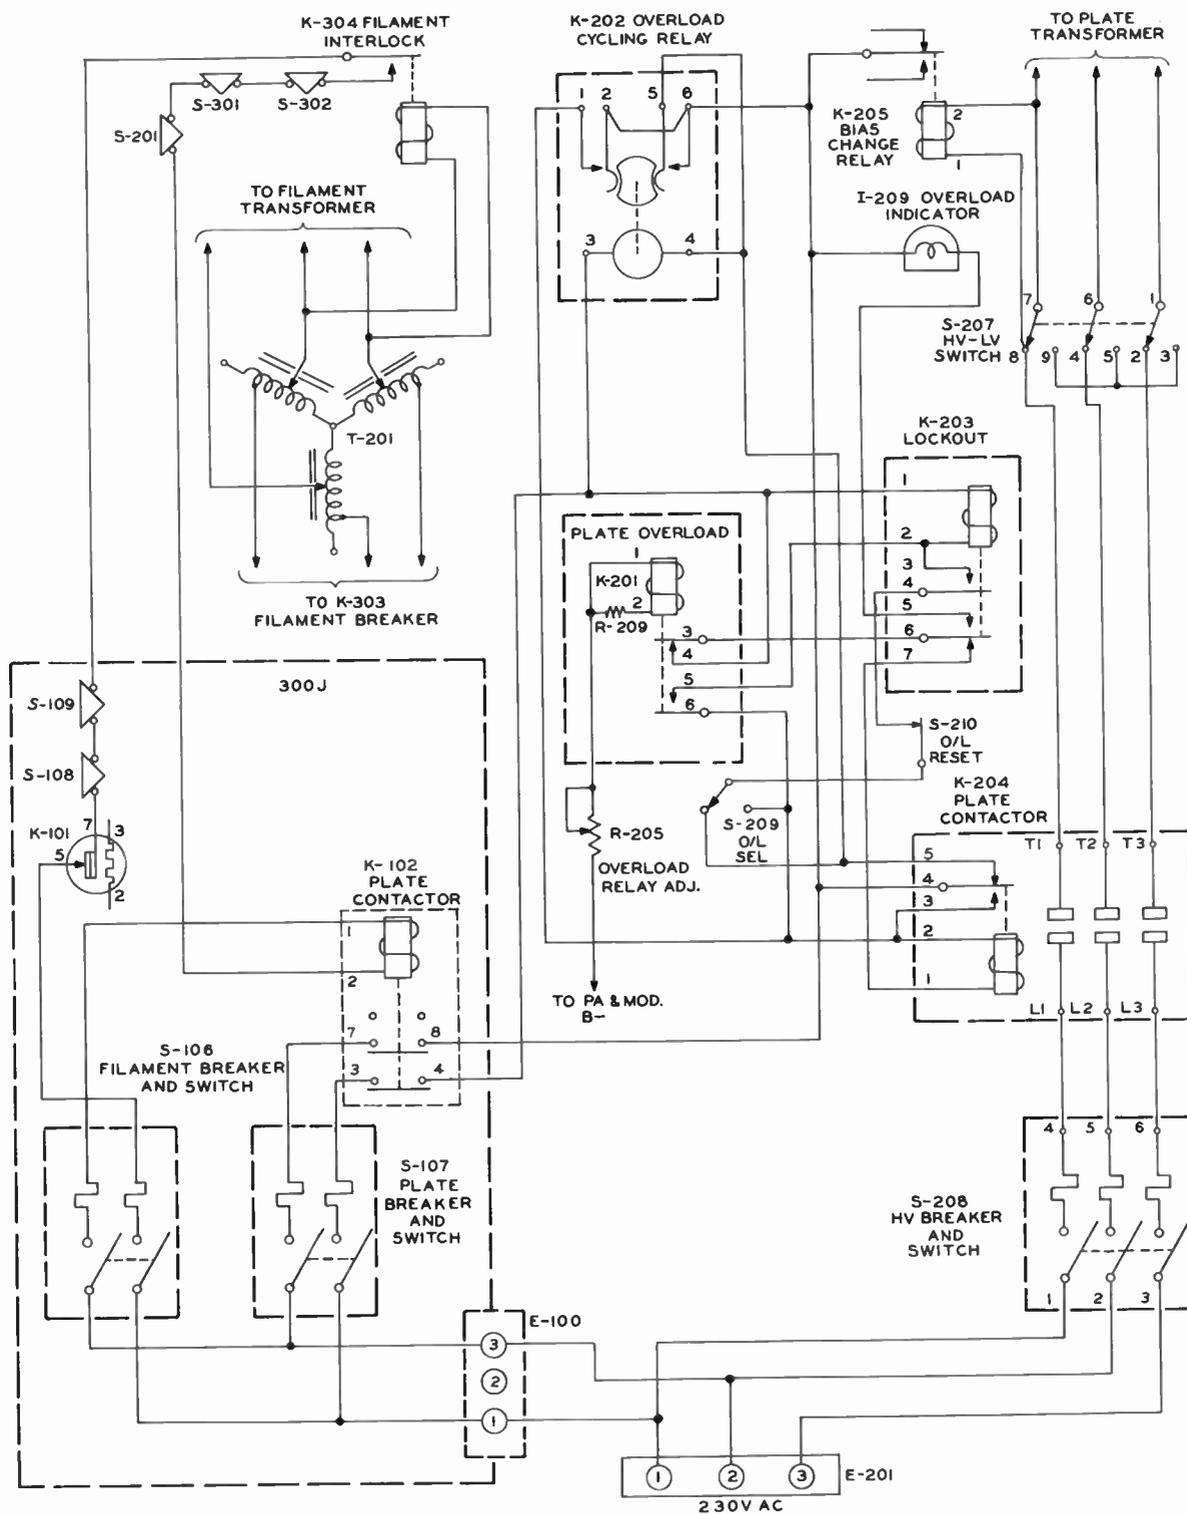
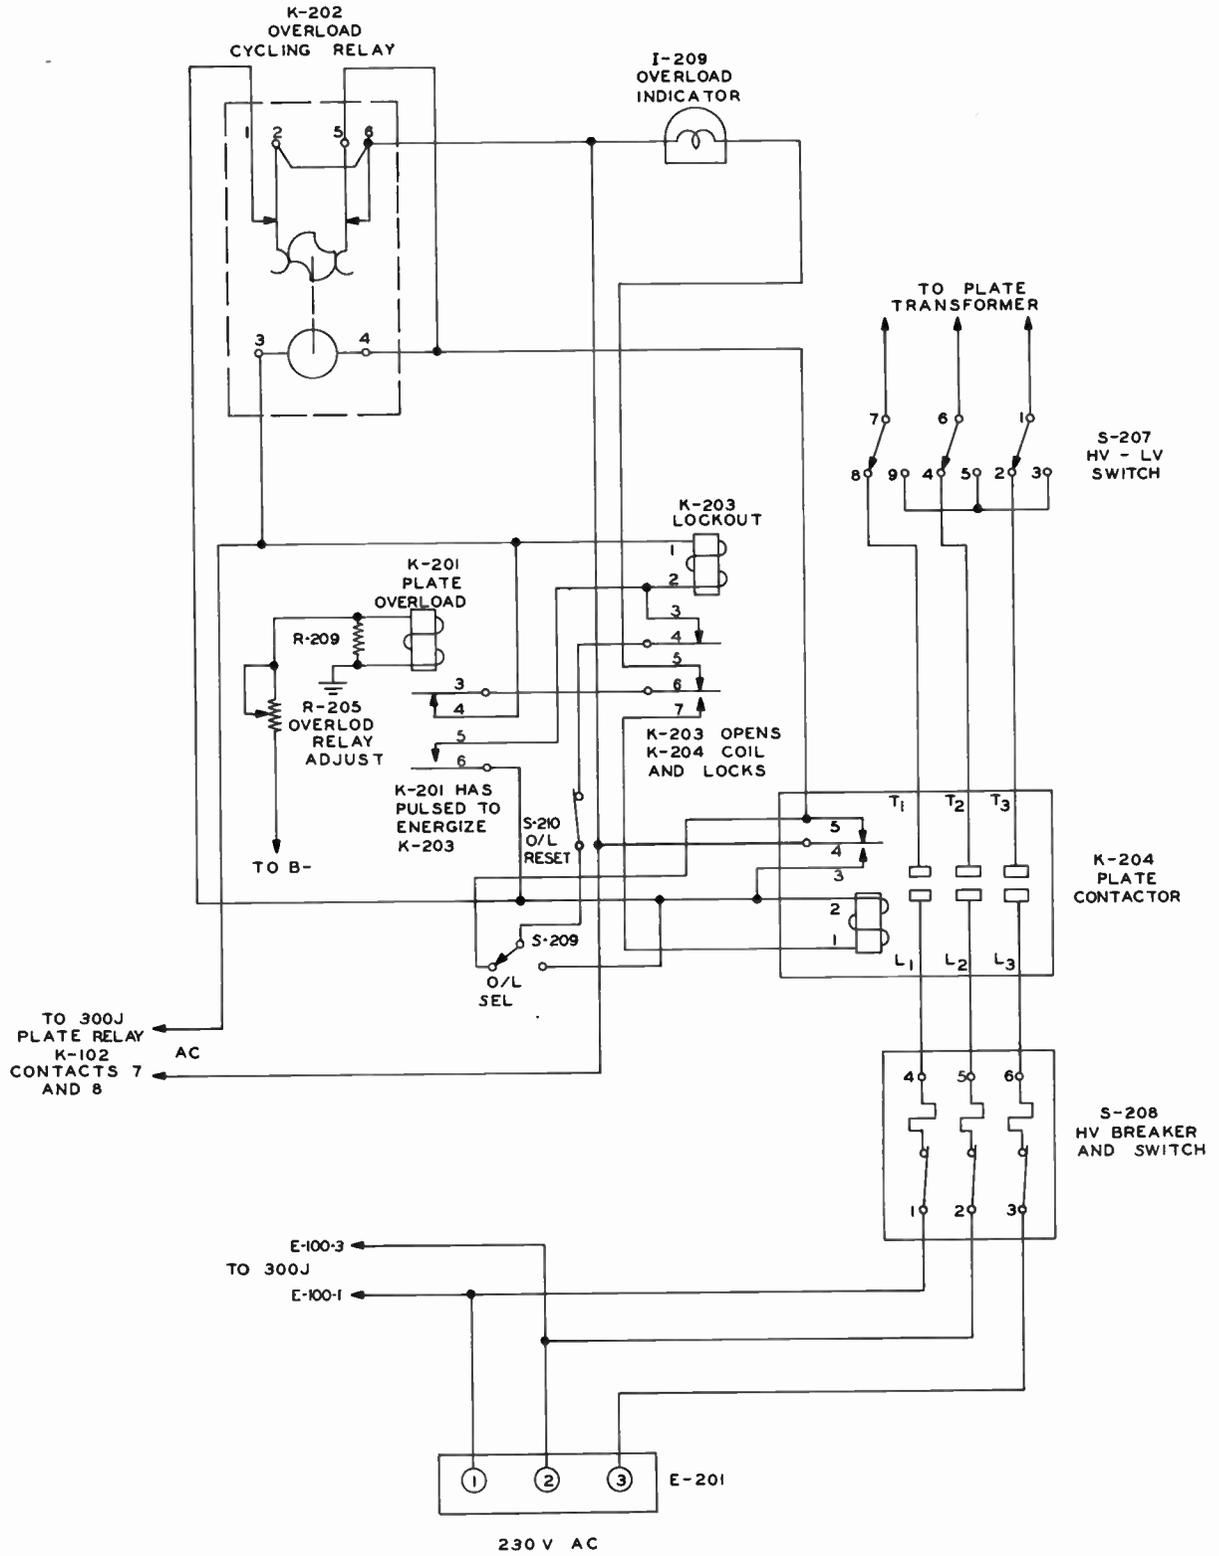

Figure 4-4. PA Plate Control Circuits -Normal.
Figure 4-5. PA Plate Control Circuit, Relay Positions Shortly after Overload.
4.5.1. LOCK OUT CYCLE. Assume that the transmitter is turned on and operating normally. Set OVERLOAD SELECTOR switch S-209 to the position shown in figure 4-4 for LOCK OUT operation. An overload in the HV plate circuit sufficient to operate plate overload relay K-201 will open the plate contactor K-204 coil circuit at contacts 3 and 4 of K-201. The plate contactor K-204 will turn off the HV plate supply but contacts 4 and 5 of K-204 will close and start the motor of overload recycling relay K-202. (See figure 4-5) K-202 will repeat the turning on cycle described above in paragraph 4.4.1. to again close plate power contactor K-204. If the overload still persists, plate overload relay K-201 will again pulse and open the coil circuit of K-204 at contacts 3 and 4 of K-201. Also, contacts 5 and 6 of K-201 energize lock out relay K-203 through contacts 1 and 2 of K-202 which then breaks the coil circuit of plate contactor K-204 at contacts 6 and 7 of K-203. K-203 locks by virtue of contacts 3 and 4 of K-203 which connect the coil of K-203 through S-210, S-209 and contacts 4 and 5 of K-204 to terminal 8 of plate contactor K-102. The overload system can be reset by pressing S-210 which releases the lock-out relay K-203.
4.5.2. RECYCLING. Assume that the transmitter is turned on and operating normally and overload selector switch S-209 is in the position opposite to that shown in figure 4-4. An overload in the PA plate circuit sufficient to operate plate overload relay K-201 will open the coil circuit of plate contactor K-204 at contacts 3 and 4 of K-201 turning the plate supply to the PA and modulator off. The turn-on cycle will attempt to turn the plate supply on again but if the overload persists, K-201 will again open the coil of K-204 and contacts 4 and 5 of plate contactor K-204 will complete the motor circuit of K-202 which will lock in and run to close contacts 1 and 2 of K-202. Lock out relay K-203 will be energized by the circuit from K-203 terminal 2 through 5 and 6 of K-201, 1 and 2 of K-202 to terminal 8 of K-102. Lock out relay K-203 will then lock because of the circuit from terminal 2 of K-203 through K-203 contacts 3 and 4, S-210, S-209, contacts 1 and 2 of K-202 to terminal 8 of K-102. The lock out relay will prevent operation of plate contactor K-204 until the overload cycling relay K-202 makes a complete cycle and opens the lock out relay coil at contacts 1 and 2 of K-202. The motor of K-202 continues to turn because of contacts 4 and 5 of K-204 and the turn-on cycle (paragraph 4.4.1.) tries to turn the PA plate voltage on again. If the overload persists the above cycle will repeat and keep repeating until the overload is cleared or the transmitter is manually turned off.